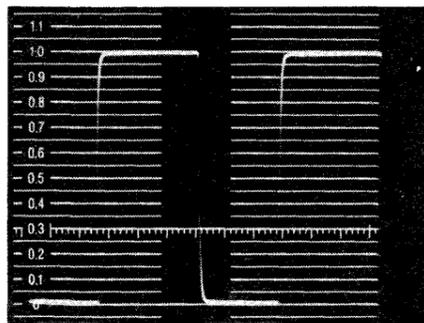

Fig. 6-1 VOLTS FULL SCALE control set to 1 V CAL.
11. Rotate the vertical POSITION control to position the display in the 0 to 1.0 unit of the graticule. The calibrator waveform of 1.0 unit within ± 0.01 unit in amplitude will be displayed (see Fig. 6-1).